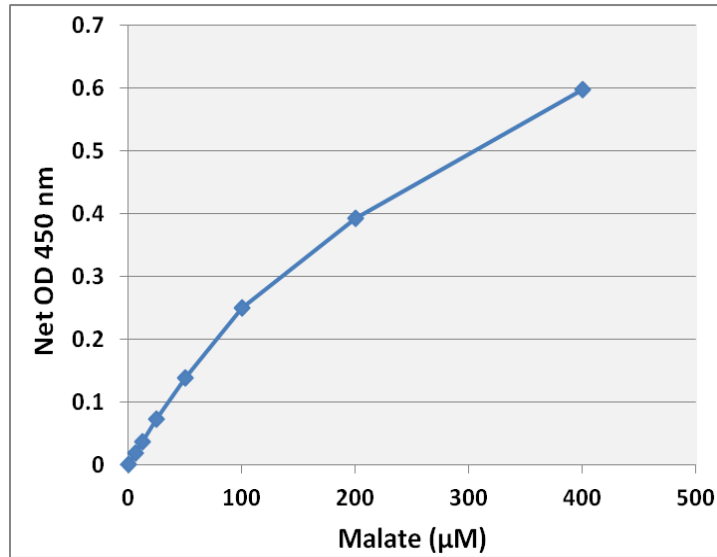

Figure 2. Malate Standard Curve.
3. Graph the standard curve (see Figure 2).